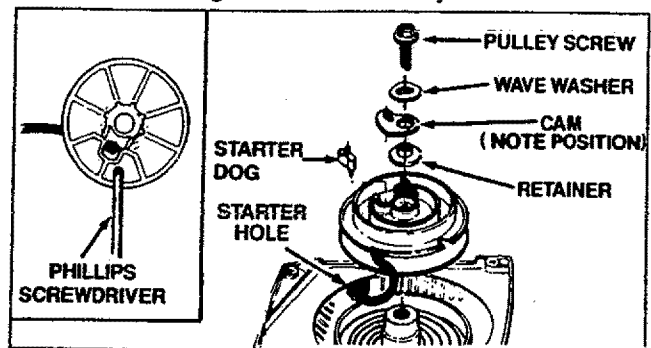

Figure 39
4. Unthread the pulley screw in the center of the pulley with a 5/32" allen wrench until the pulley assembly can be removed from the fan housing. Figure 39.
8. Feed the rope through the round starter hole in the fan housing. Figure 39.
9. Guide rope inside pulley, then through topside pulley hole by pushing the rope from the underside hole with a small round object, such as a Phillips screwdriver. See inset. Figure 39.
NOTE: If you remove the pulley screw from the pulley, make sure the starter dog, retainer, cam, and wave washer are positioned and installed properly as shown in Figure 39. If parts have been cleaned, apply a small amount of grease to both sides of the cam and wave washers.
14. Make sure the cam is installed on the starter dog in the direction shown in Figure 39. Also make sure the wave washer is seated around the top outer edge of the retainer and not caught between the top of the retainer and the pulley screw.